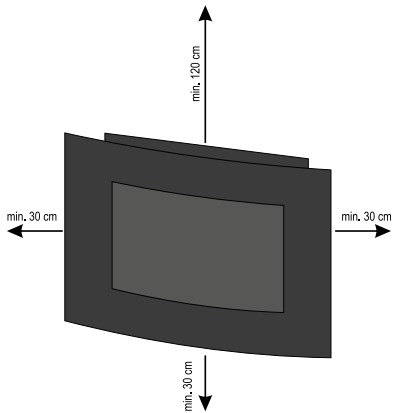

Figure 2 • 2.ábra • 2. obrázek • fig. 2. • 2. skica • 2. obrázek • Slika 2.
8. Never locate the unit directly in corners and observe the minimum locating distances indicated in Figure 2. Always observe the health and safety regulations valid in the country of use.